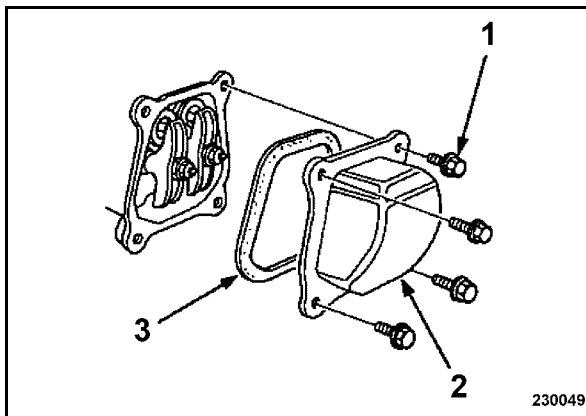

Fig. 59
- Loosen the screws (1) (Fig. 59) and take off the valve cover (2) with gasket (3).